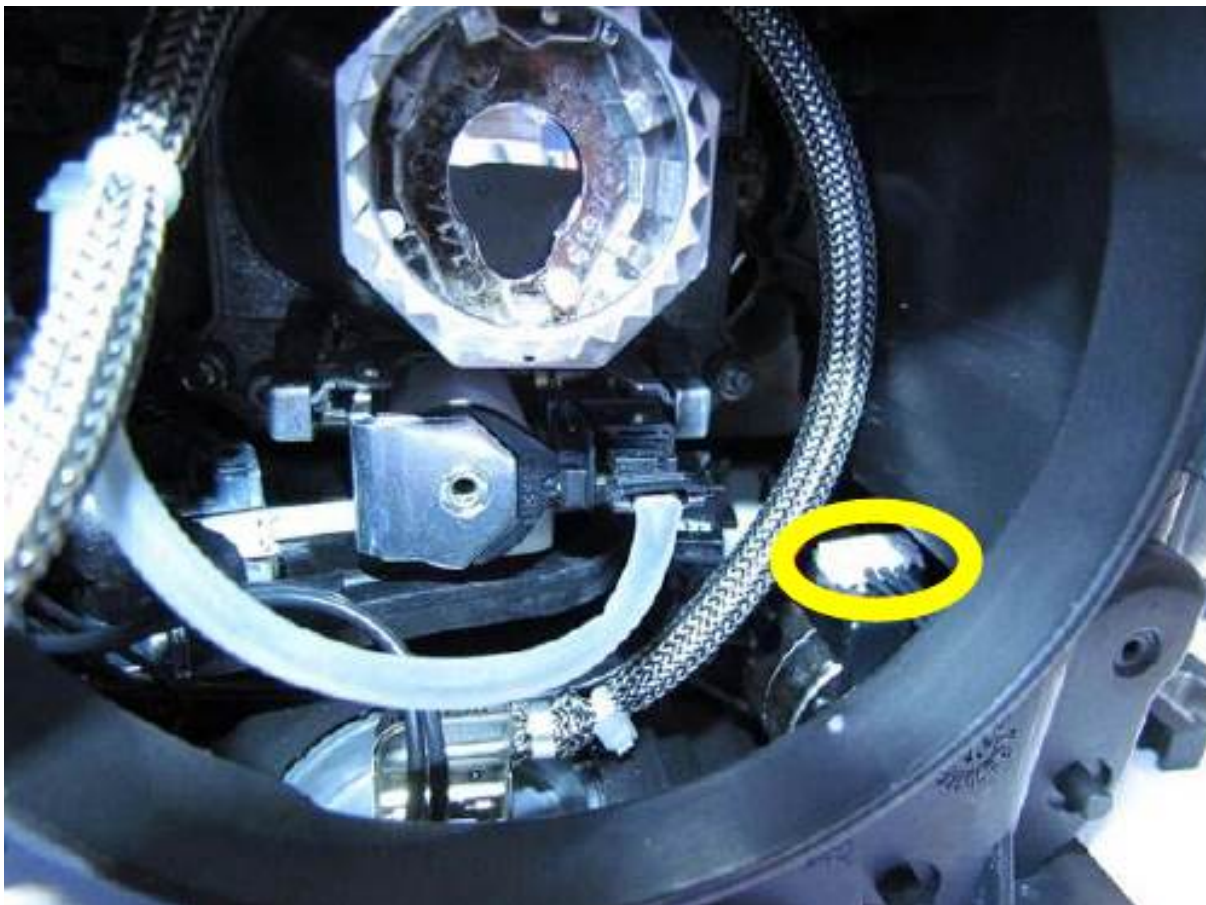

Figure 1. Check this connector on vehicles with PR codes 8Q3 or 8Q5.
- If the vehicle is equipped with one of the following PR codes, check the connector shown below (Figure 1):